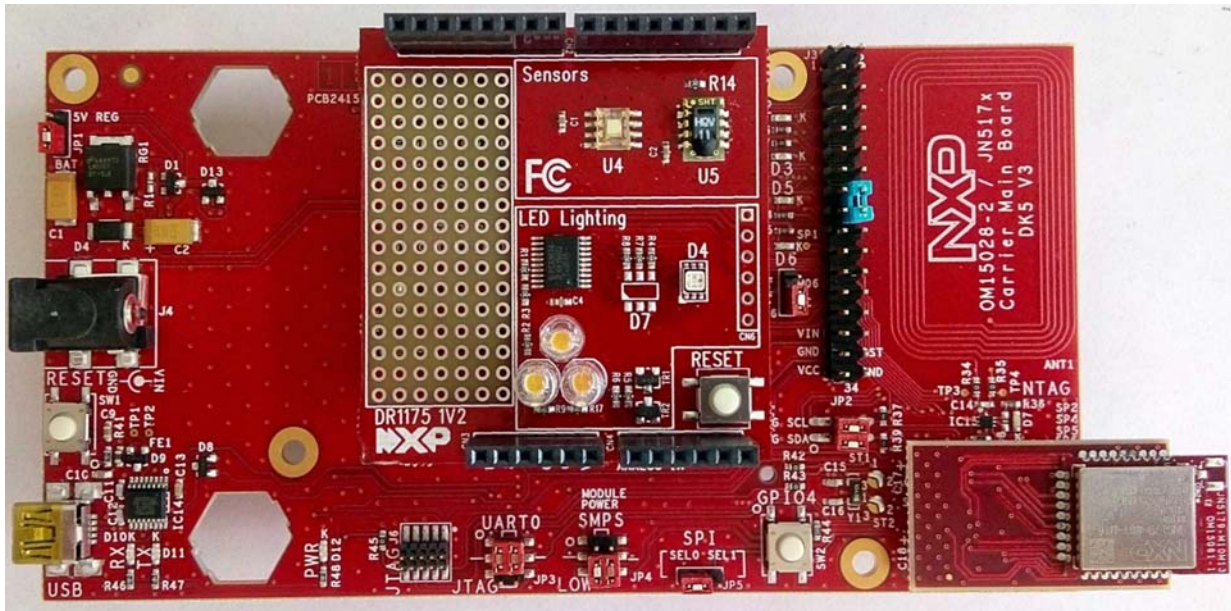

Figure 19: Carrier Board Fitted with Module and DR1175 Expansion Board
Figure 19 below shows a pre-assembled board fitted with a Lighting/Sensor Expansion Board (DR1175).
**Tip 2:** The pre-assembled board shown in Figure 19 is also available to purchase separately as the JN517x-XK040 Lighting/Sensor Node Expansion Kit. See “Optional Components” on page 8.